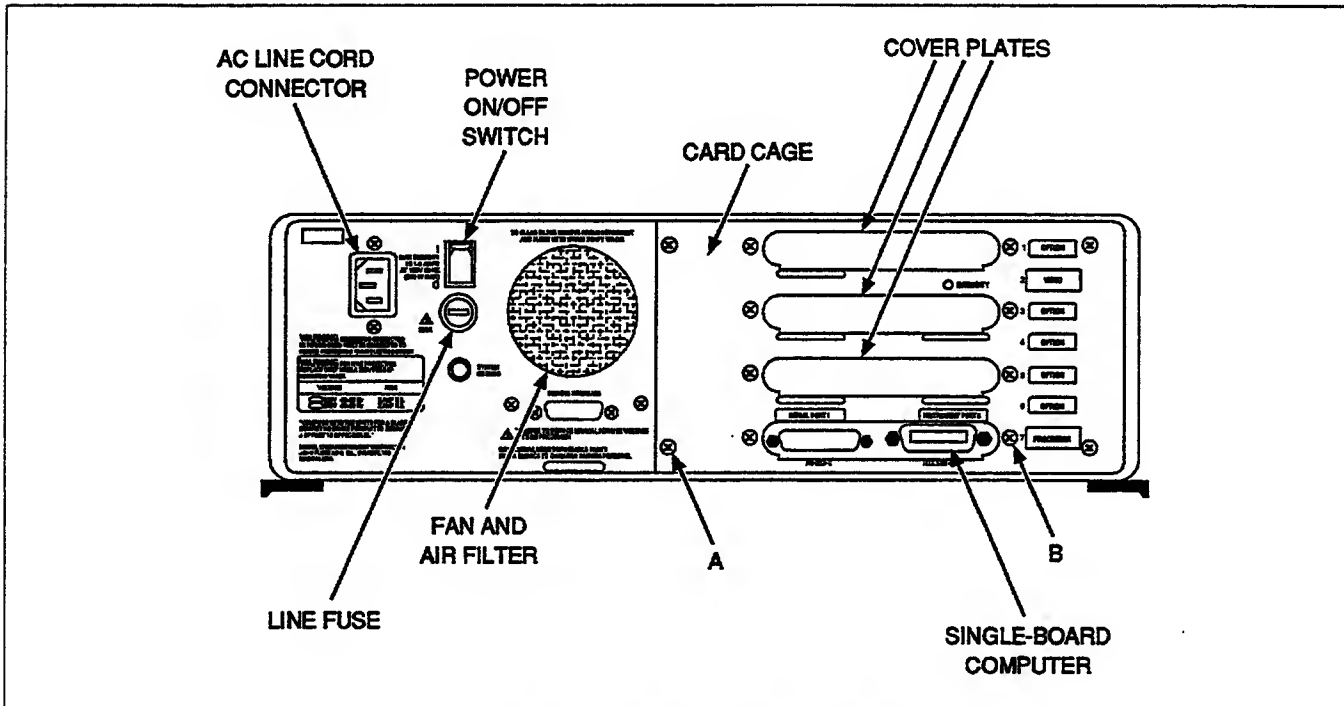
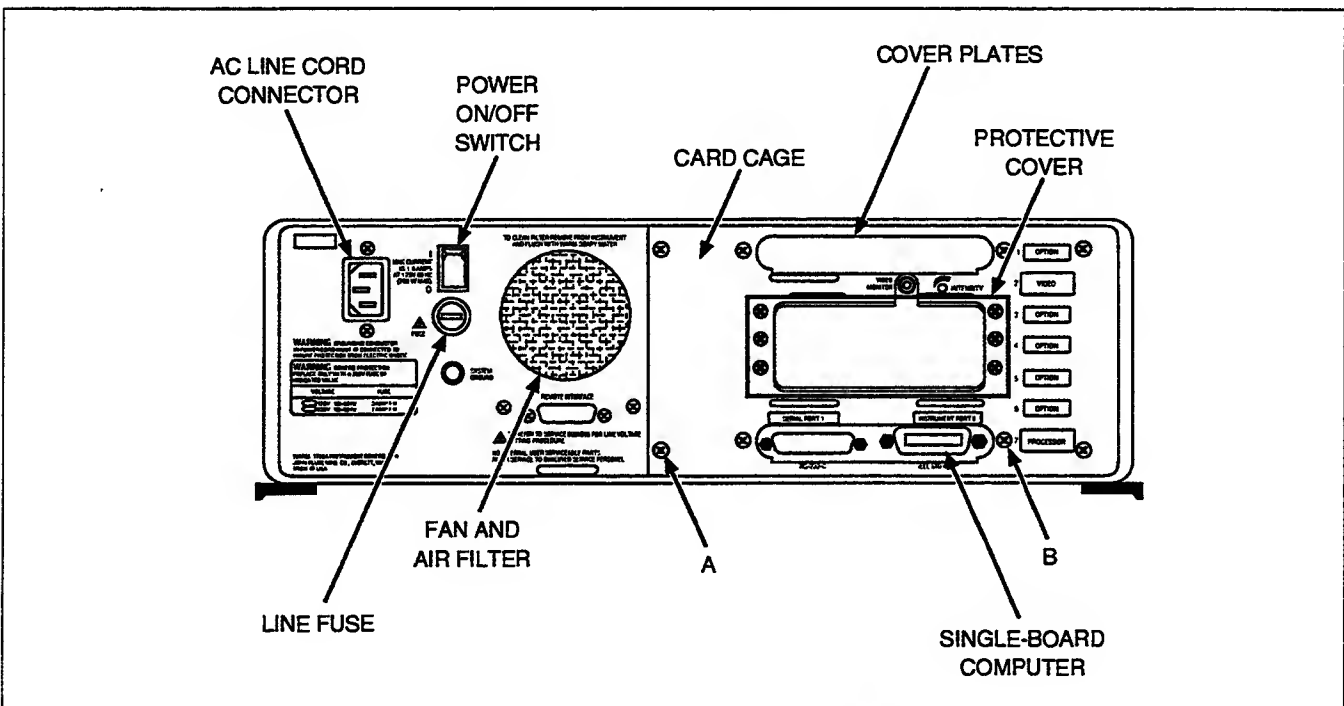

Figure 3-10. The 1722A Rear Panel
Figure 3-11. The 1752A Rear Panel
1. Referring to Figure 3-10 for the 1722A or Figure 3-11 for the 1752A, locate the fuse on the back panel below the POWER ON-OFF switch.
1. Referring to Figure 3-10 for the 1722A or Figure 3-11 for the 1752A, remove the four screws (A) that hold the card-cage cover to the back panel.
2. Remove the two screws (B) that hold the Single-Board Computer onto the card-cage cover.